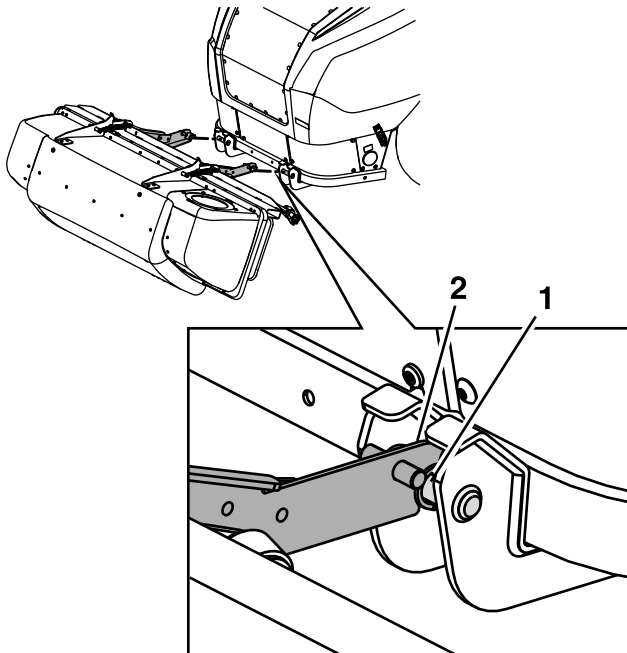

Figure 14
2. Pick up the bagger frame legs and hook the notch onto the lower bagger-mount bar (Figure 14).